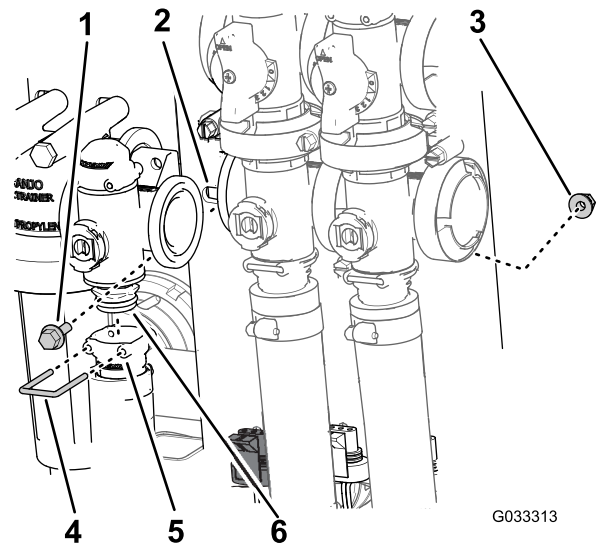

Figure 68
2. Remove the retainer that secures the outlet fitting to the manifold for the rate-control valve (Figure 68).
3. Remove the 2 flanged-head bolts and 2 flanged locknuts that secure the rate-control valve to the valve mount and remove the valve manifold from the machine (Figure 68).